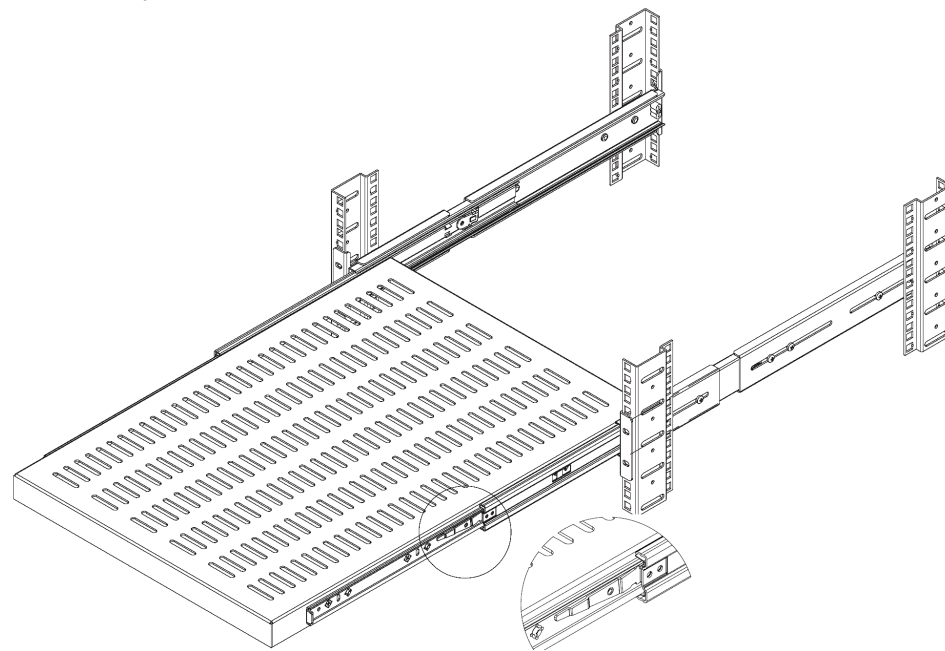

Figure 2
9. To put the **Sliding Shelf** back into position, engage both **Release Levers** (See Figure 2) at the same time and gently **push** the **Sliding Shelf** back into the **Rack**.
10. (Optional) To remove the **Sliding Shelf**, **Fully Extend** the **Sliding Shelf**, and locate the **Release Levers** (See Figure 2) on the sides of the **Sliding Shelf**. Engage both **Release Levers** at the same time and **Pull** the **Sliding Shelf** out of the **Rail Assemblies**. Repeat **Step 6** to install the **Sliding Shelf**.